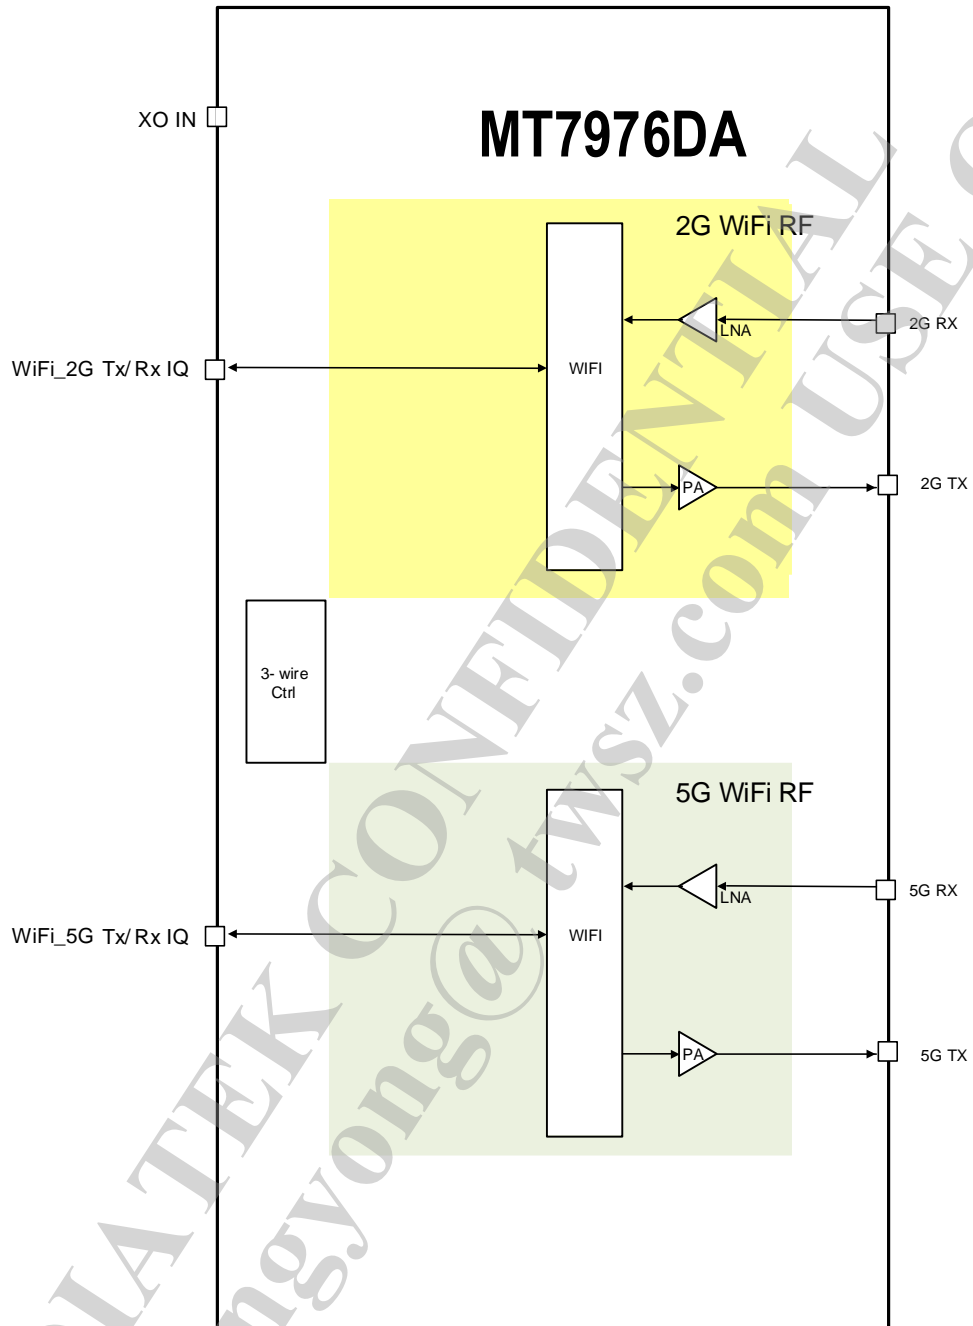

Figure 1-1. MT7976DAN block diagram
MT7976DAN is an IEEE WiFi 6 MIMO RF chip which contains 2.4 GHz Wi-Fi transceiver front-ends and 5 GHz Wi-Fi transceiver front-ends in a DRQFN package. Simplified block diagram and how MT7976DAN is used are shown in Figure 1-1. The top control logics control each subsystem independently. Each subsystem also has dedicated LDOs. A thermal sensor and a low-speed ADC (Analog-to-Digital Converter) are provided to monitor MT7976DAN's temperature variation. MT7976DAN has its dedicated crystal oscillator (XO) circuit. Besides, XO circuit provides an external clock source to other chips in the platform.